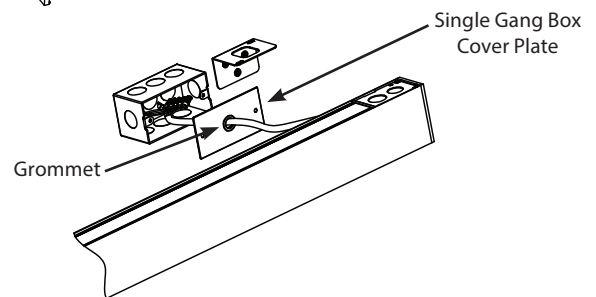

Fig. 4
8. Attach the fixture to the **Wall Mount Brackets** with provided hardware (Fig. 4).